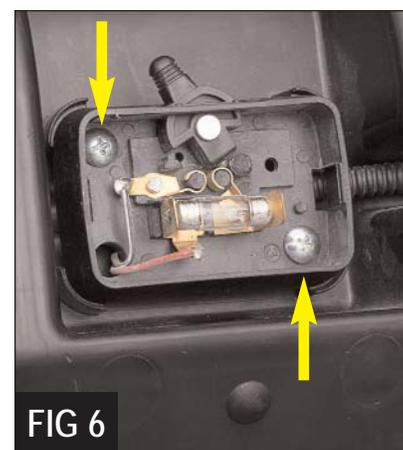

FIG 6
7. Remove the two bolts on the light housing, using a Phillips screwdriver (Figure 6).